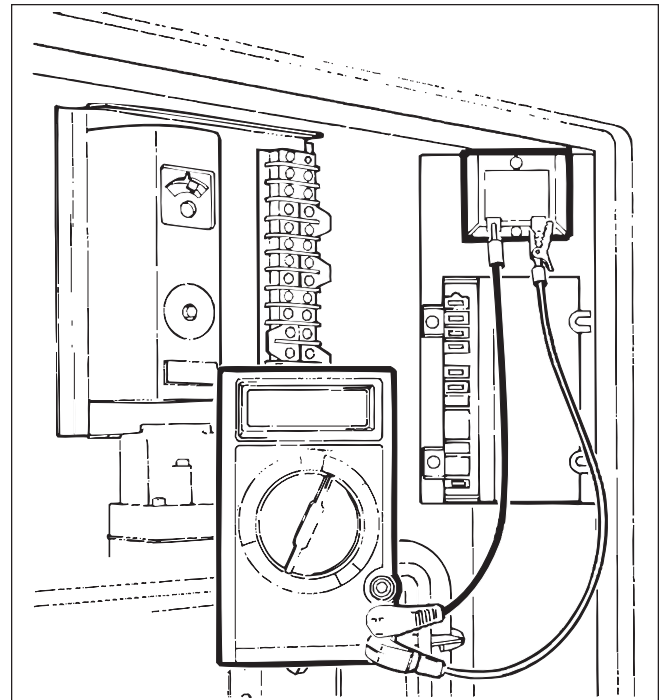

Figure 35. Testing the transformer.
2. Touch the other lead to the red wire terminal (see Figure 35). The voltmeter should read 20 to 28VAC.